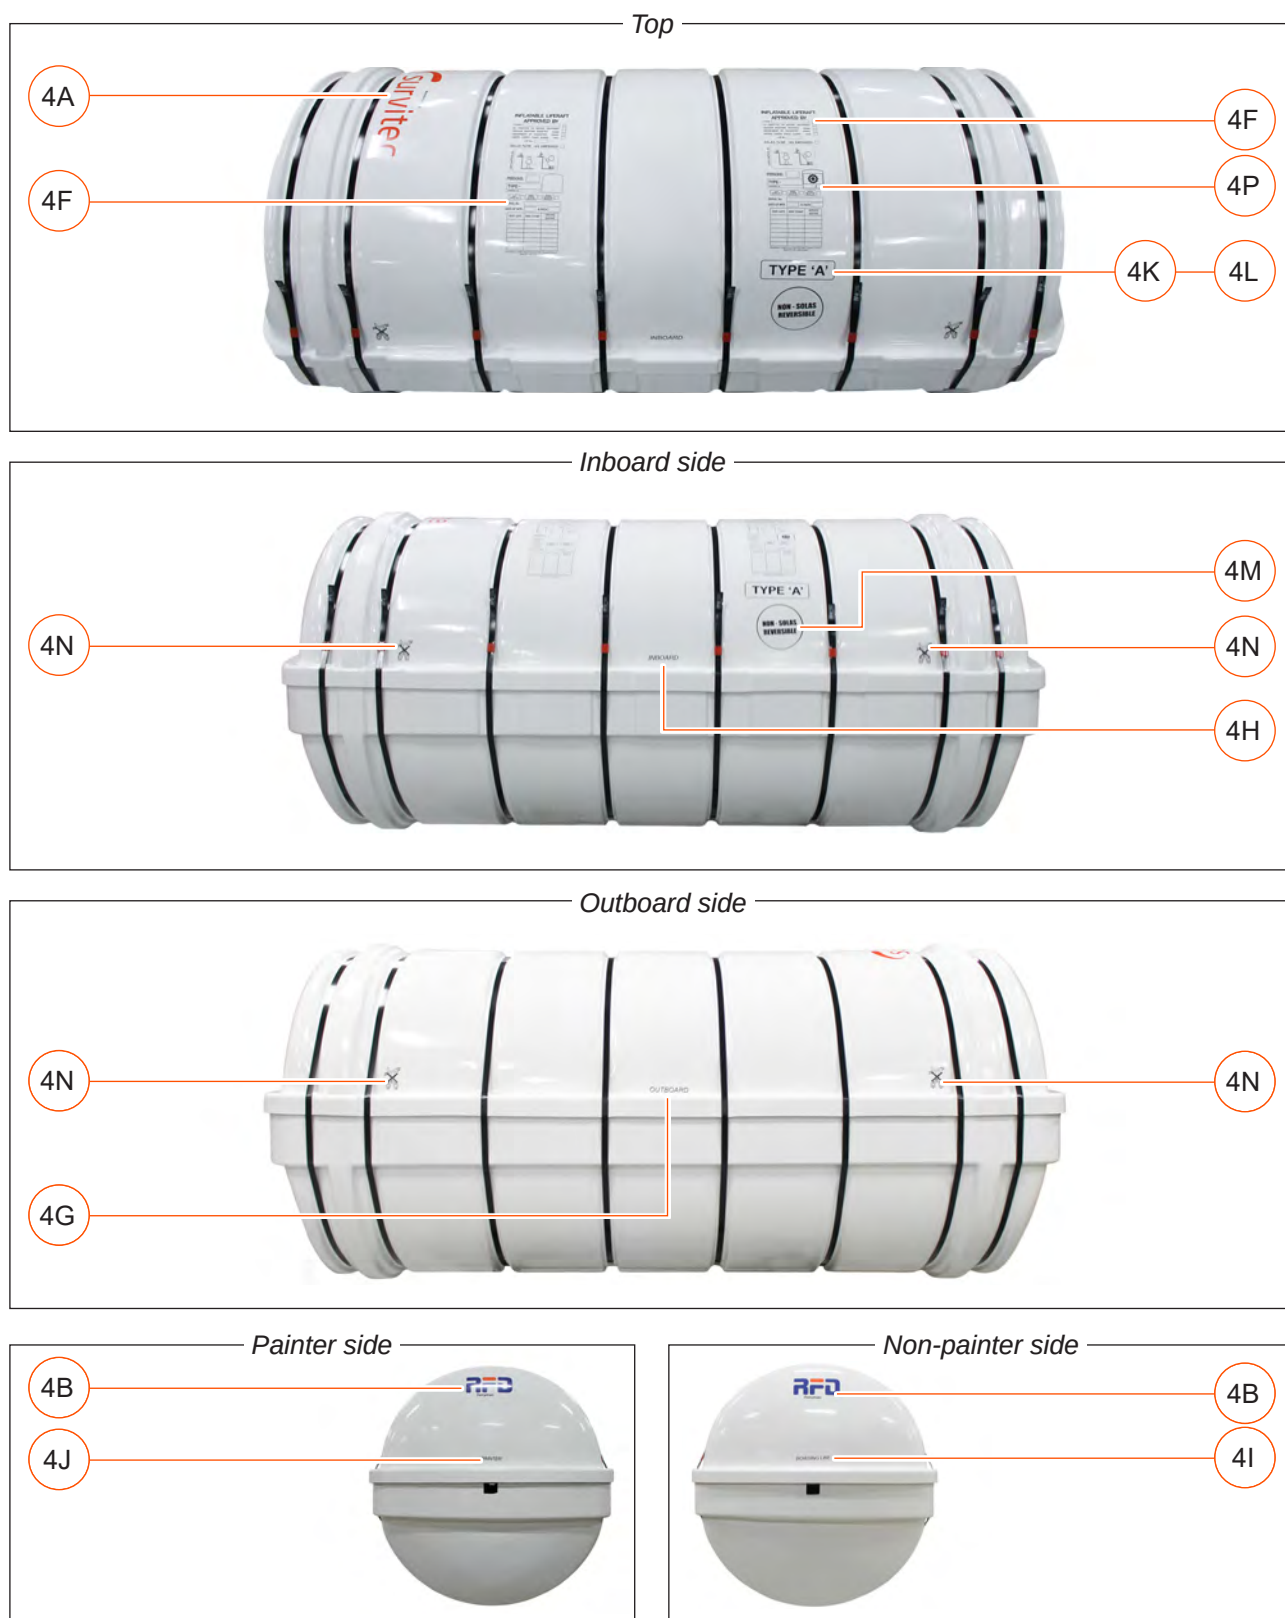

Figure 33
- Mk 15 size 31. Refer to **Figure 33** for label positions.